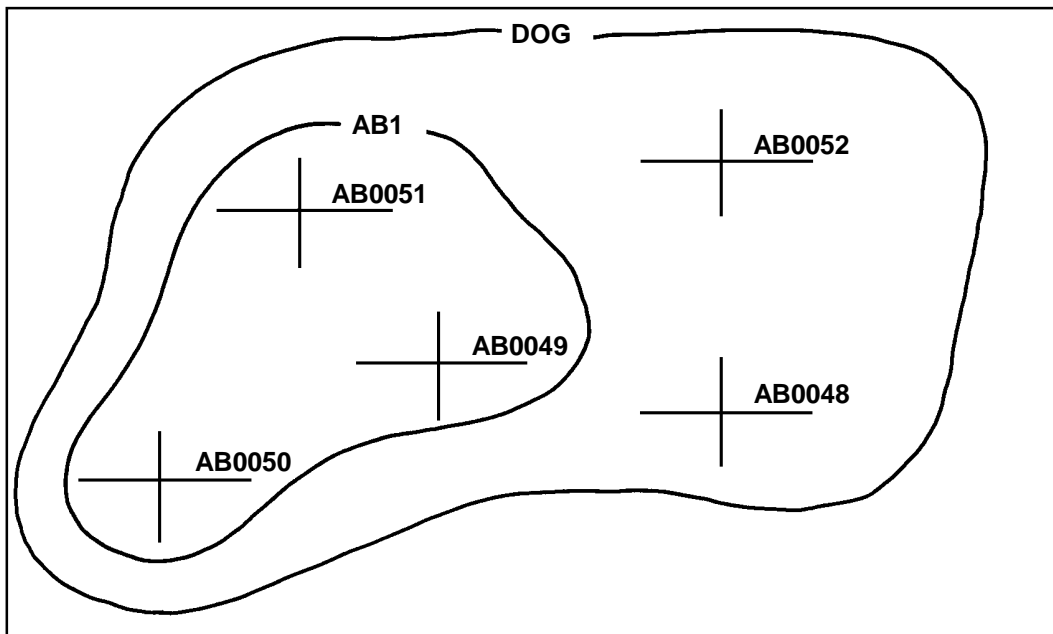

Figure 2-6. Series of targets.
d. A **series of targets** (Figure 2-6) is a number of targets or groups of targets planned to support the operation. For example, a series of targets may be planned on a large objective so that fires are lifted or shifted as the support unit advances. Graphically, a series is shown as individual targets or groups of targets within a prescribed area. The series is given a code name. The fact that a series of targets has been formed does not preclude the attack of individual targets or groups of targets within a series.